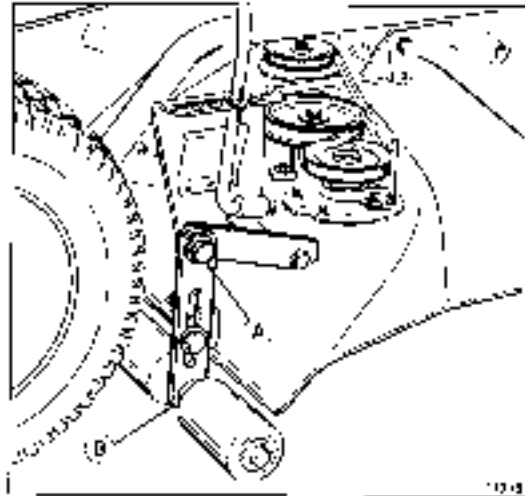

Figure 46. Side-to-Side Leveling
3. Turn the blades side to side and measure distance from outside tips of blades to ground. Measurement should be equal. For adjustment, refer to Figure 46.
4. Loosen the capscrew (A) on the right hand side of mower roller bracket (B).